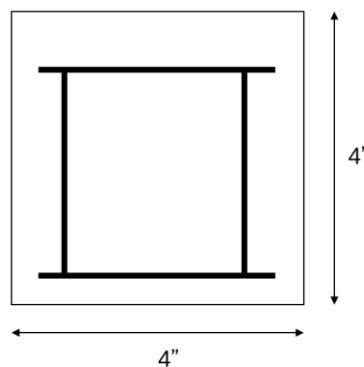
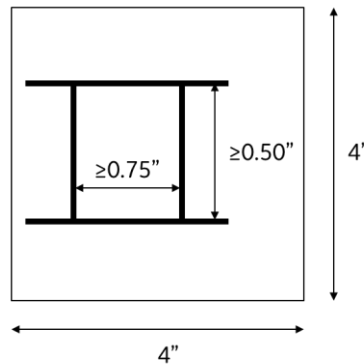

Figure 2. Closed Square Beam Maximum Dimensions
Figure 4. Square Beam Web and Cap Gap Maximum Dimensions
3.3. Criteria for Square Beam Bridges. Square beam bridges are permitted to have a closed or open cross-section but are not permitted to have a solid cross-section along any length of the bridge. Square beams shall have two or three independent webs; webs do not have to be perpendicular to the caps. The webs shall maintain a minimum gap of 0.75 inches and the caps shall maintain a minimum gap of 0.50 inches. Caps are permitted to extend past the web. The maximum dimensions for Square Beams are shown in Figures 2 and 3. The web and cap gap requirements are shown in Figure 4.